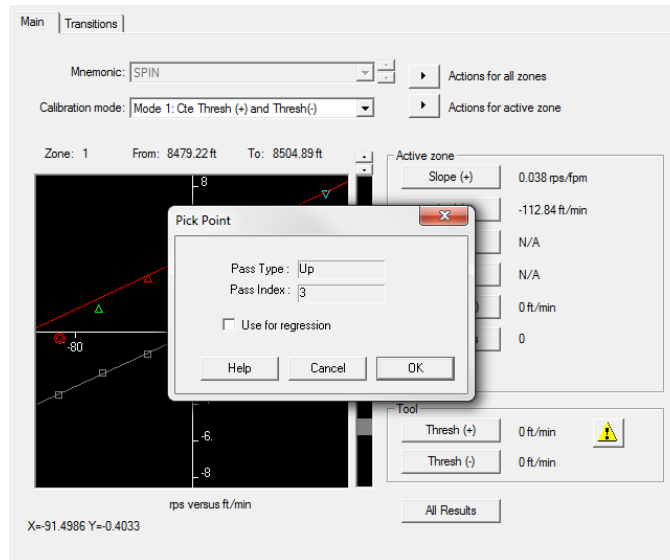

Fig. B02.24 • Disabling calibration points
- Disable the point by turning off the toggle 'Use for regression', Fig B02.24.
- Generate the apparent velocity channel with weights, as illustrated in Fig. B02.24: 0 on Up passes, 1 on Down passes. The 'Vapp log settings: SPIN' dialog automatically pops up when clicking OK in the 'Calibrate' dialog.